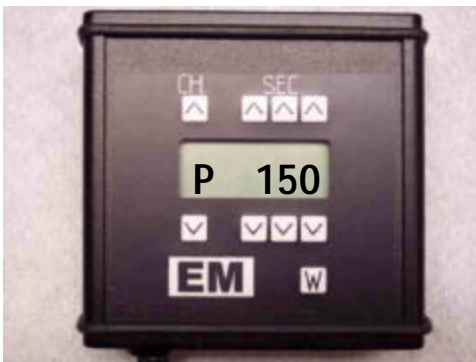

Fig. 12
2. Press "CH √" again and the display will read "P 150". The "P" indicates that this is the pressure value for any channels that are in "P1" mode. (Fig. 12)